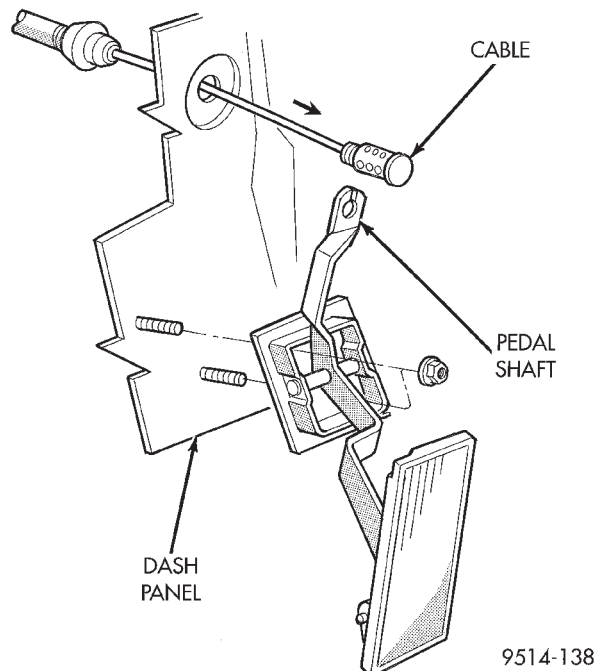

Fig. 45 Accelerator Pedal and Throttle Cable
(1) Remove the throttle cable from the throttle body cam as described in Throttle Cable of this section.
(2) Reach behind the top of the pedal shaft and push the retainer toward rear of vehicle (Fig. 45). It may be necessary to squeeze retainer ears together on dash side of pedal shaft.
(3) Lift cable up through slot in top of pedal shaft.